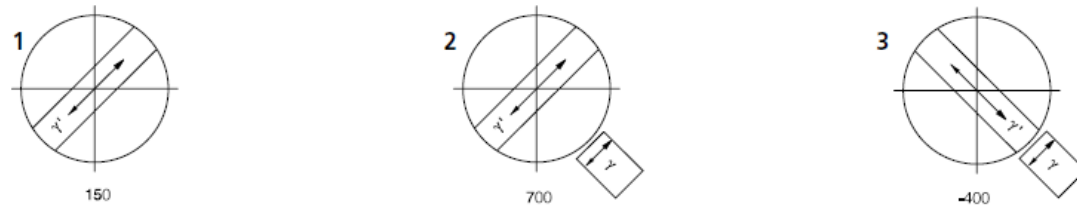
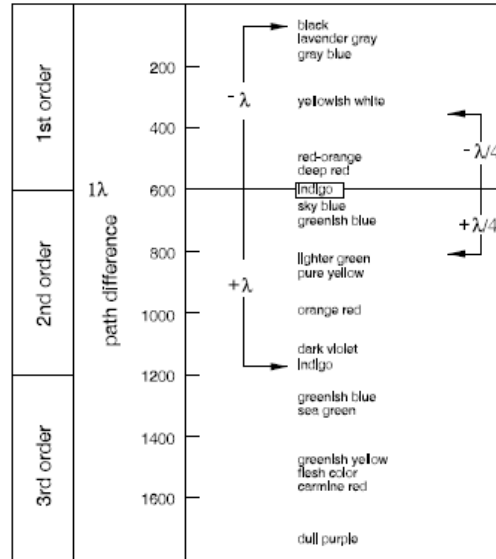

Fig. 4-7 Determining the direction of oscillation  $n_\gamma$  using a synthetic fiber as an example
Fig. 4-8 Schematic diagram of the color charts according to Michel-Lévy
- Now turn the stage on by  $45^\circ$  so that the longitudinal axis of the fiber is oriented NE-SW (Fig. 4-8). The specimen will display the greatest brightness here (diagonal position). In this position the specimen may have any color.
The greater path difference occurs, if the direction of oscillation of the specimen with the absolutely or relatively highest refractive index ( $n_\gamma$  or  $n_{\gamma'}$ ) is parallel to the principal direction of oscillation of the compensator  $\lambda$ . The specimen will then appear, for instance, in greenish-blue (Fig. 4-7/2).
The smallest path difference occurs, if the direction of oscillation of the specimen with the absolutely or relatively lowest refractive index ( $n_\alpha$  or  $n_{\alpha'}$ ) is perpendicular to the direction of oscillation of the compensator  $\lambda$ . The specimen will then appear, for instance, in yellow (Fig. 4-7/3).
The grayish-white color appearing first in the bright position in the above example (Fig. 4-7/1) corresponds to a path difference of 150 nm according to the Michel-Lévy color chart (Fig. 4-8).